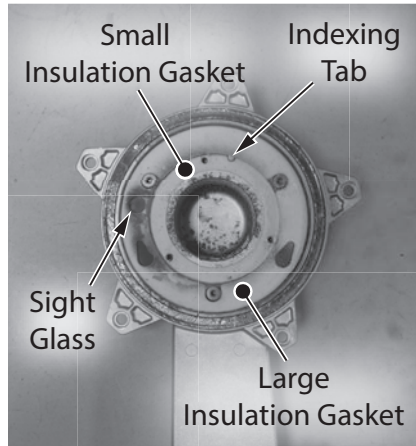

Figure 122 - Burner insulation gaskets
22 Locate the small and large insulation gaskets on the burner door as shown in Figure 122. Use a plastic scraper to gently scrape insulation clean from burner door. Confirm burner door surfaces are free of any debris or leftover insulation.
23 Locate the new, small insulation gasket (100371051) provided in the kit. Install the small insulation gasket first. Flip gasket so the adhesive side is facing the burner door surface. Note the indexing tab on the burner door to properly orient the gasket (Figure 122). Confirm gasket sits evenly and flush with burner door.
24 Locate the new, large insulation gasket (100371054) provided in the kit. Install the large insulation gasket second. Flip gasket so the adhesive side is facing the burner door surface. Note the location of the sight glass on burner door to properly orient the gasket (Figure 122). Confirm gasket sits evenly and flush with burner door.
27 Locate the new burner provided in the kit. Install burner to burner door. Use the indexing tab to properly orient burner as shown in Figure 122. Secure with the three (3) screws previously removed in **Step 20**.